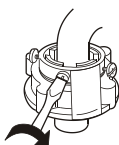

Figure 4
4. Fasten the four screws evenly. See to Figure 4.